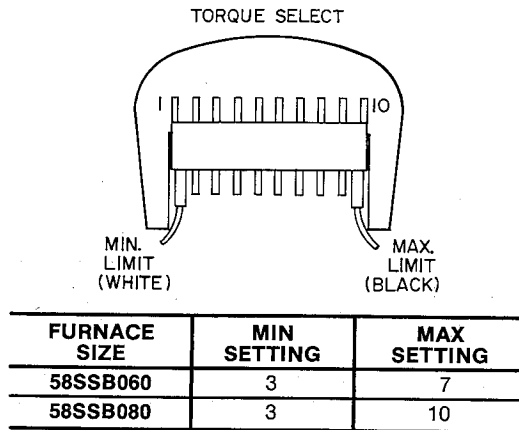

Fig. 2 — Torque Setting
6. Unpackage ECM blower assembly and set the minimum and maximum torque settings on ECM blower control via access in lower mounting bracket as shown in Fig. 2.